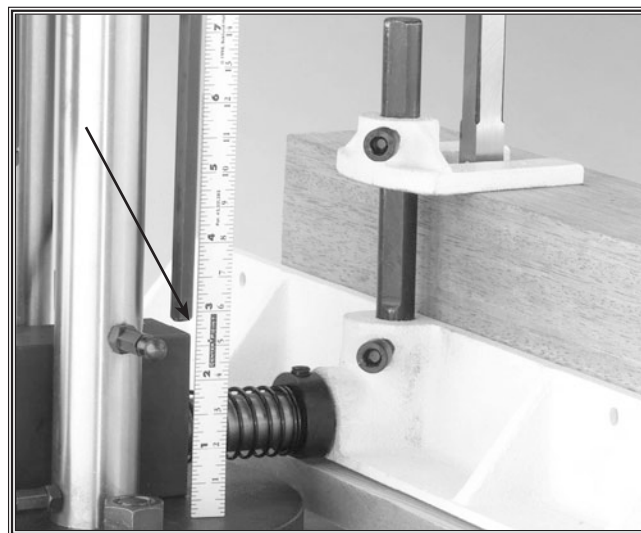

Figure 31. Setting the depth stop to $2\frac{7}{8}$ ".
3. Adjust the depth stop rod to correct depth for producing blind mortises. In **Figure 31**,